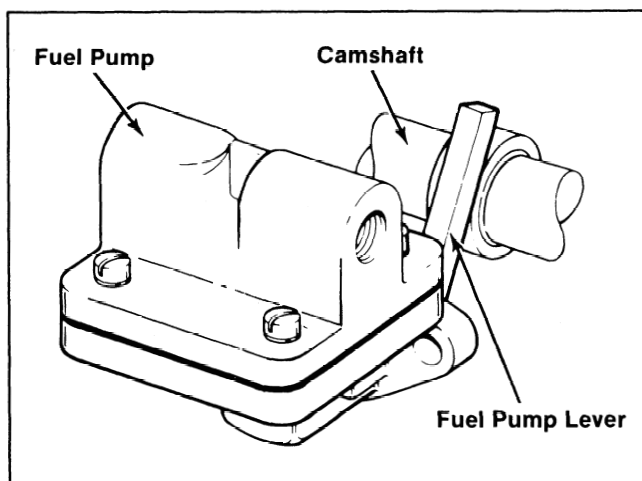

Figure 12-47. Mechanical Fuel Pump.
1. Install the gasket, fuel pump, plain washers, and fillister head screws. Refer to Figure 12-47.